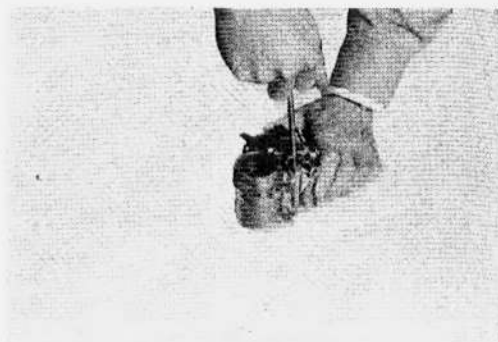

Figure 125
(13) Unloosen nut plug and take out pump intake strainer screen (Fig. 125).